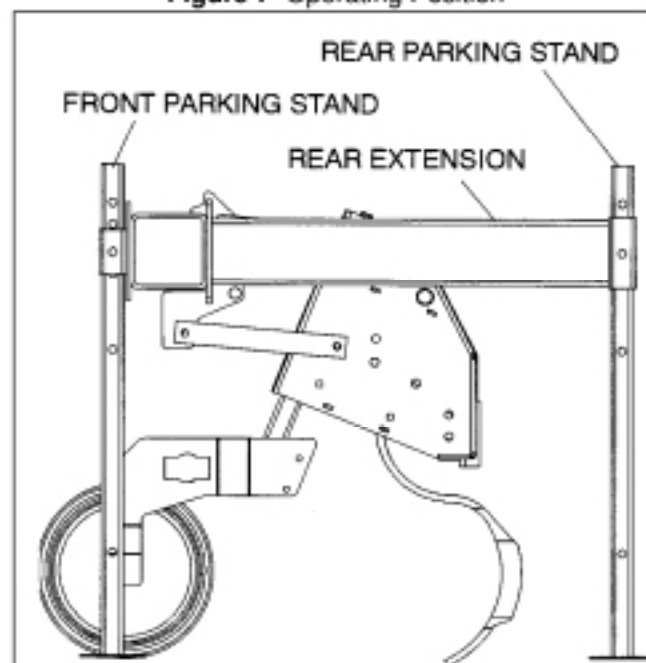

Figure 8 Front & Rear Parking Stands (Type F Toolbar)
7. Lower rear parking stands (folding cultivators without lift assist) to the ground and pin in position so that parking stands will be vertical when tractor is removed. Front and rear stands should be pinned in the same hole position. See Figure 8.